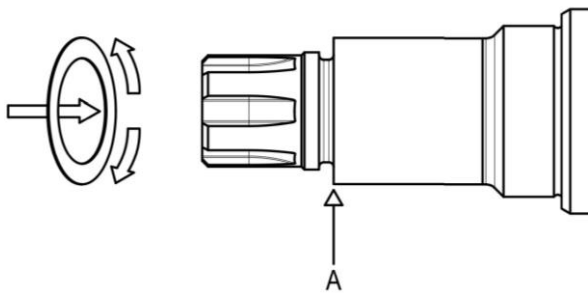

Figure 26 - Fitting shims
- With the pump assembled, the end cover (122) removed (see 6.1 END COVER), and the rotors (56) (see ROTORS) and rotor case (1) (6.7 ROTOR CASE) fully secured to the correct torques.
- If the clearance is incorrect (to Table 6 – Rotor clearances) remove the rotors (56) (see ROTORS).
- Remove the O-rings (31) and shims (30), the shims are cut to allow them to slide over the shaft.
- To fit the shims open them slightly and slide onto the shaft up to the shoulder (A) (Figure 26).